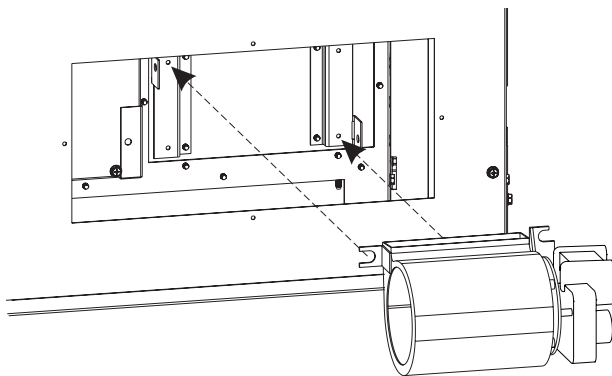

Figure 10
5. Place Blower onto Blower Brackets. See **Figure 10**.